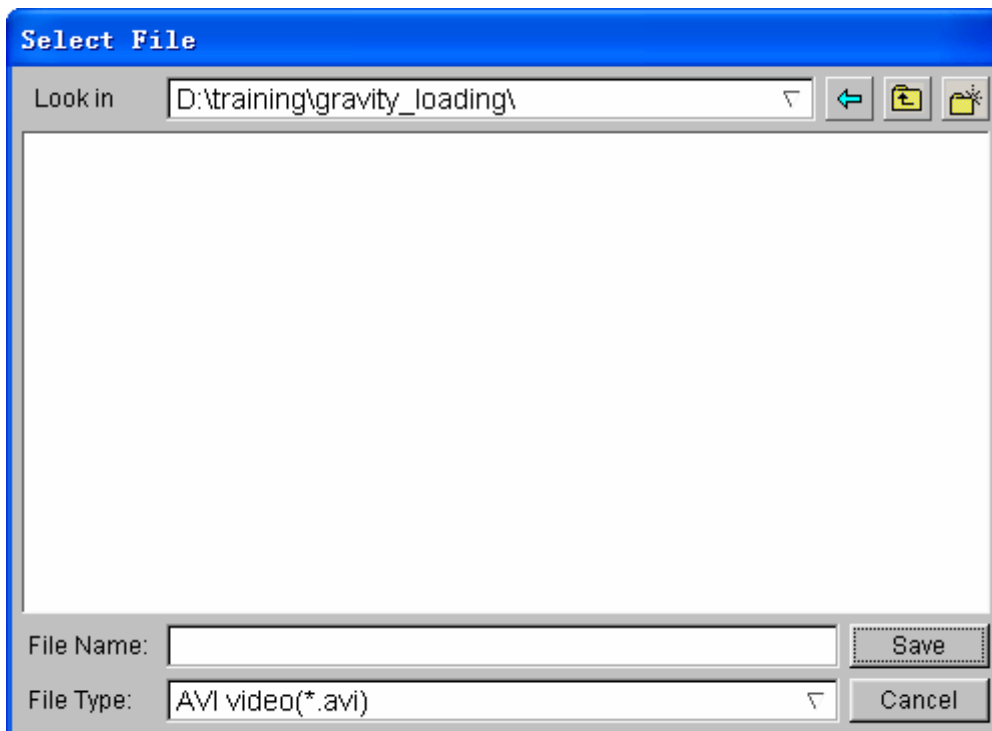

Figure 4.41 Save AVI file
5. Enter a name of the **AVI** movie file (e.g. traincase.avi) at the input data field of File Name illustrated in Figure 4.41.